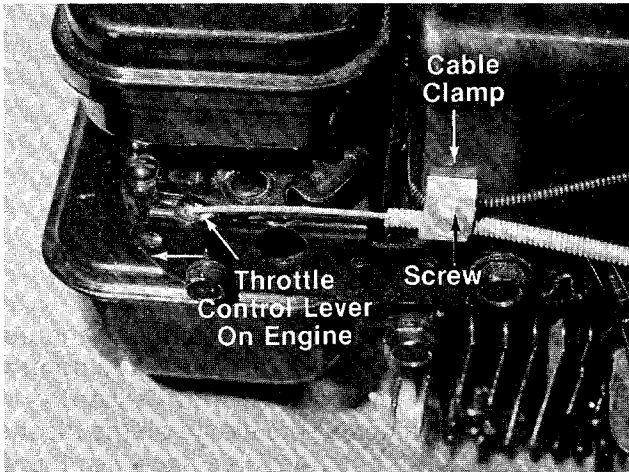

FIGURE 7.
10. Push the throttle control lever on the engine to the full open position (as far toward the outside of the unit as it will go) as shown in figure 7.
- ← 12. Loosen (do not remove) the screw on the cable clamp shown in figure 7. Slip the control casing under the clamp. With the throttle lever on the engine still in the full open position, tighten the screw to secure the throttle control cable.